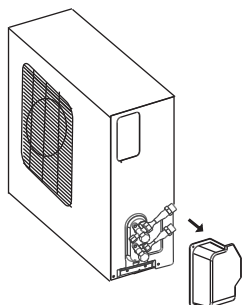

Fig.6.1
1. First remove the water tray on the outdoor unit as shown in Fig.6.1.